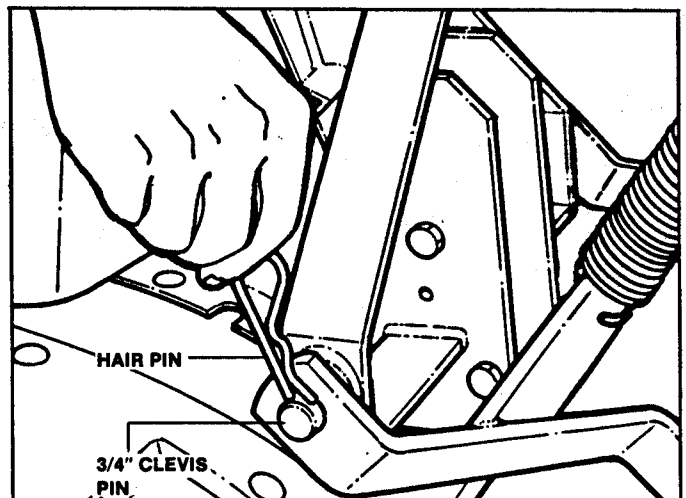

FIGURE 8
6. Remove the center stabilizer bar. Slide tiller in position and attach it with the 3/4" clevis pins and hair pins. See Figure 8.